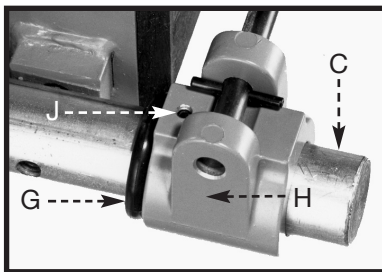

Fig. 36
- Attach the rubber bumper stop (G) Fig. 36, and table lock/stop bracket (H) to the front end of the upper rail (C).
- Push the rubber bumper stop (G) Fig. 36 and the table lock/stop bracket (H) in until they contact the upper bearing on the sliding table. Tighten the set screw (J) Fig. 36 to hold the stop (H) in place.